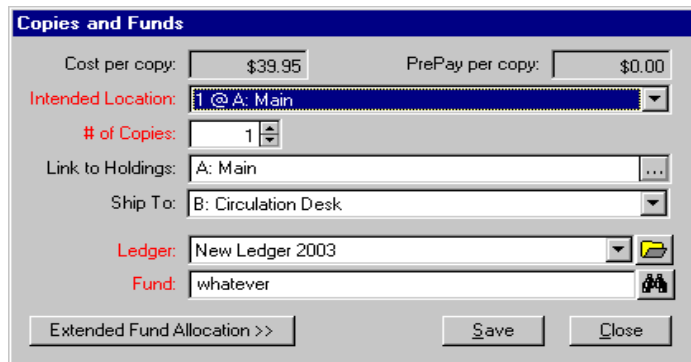

Figure 13-15. Copies and Funds dialog box - ellipsis displayed beside the Link to Holdings field
- The **ellipsis** button beside the **Link to Holdings** field on the **Copies and Funds** dialog box (Figure 13-15). The **Copies and Funds** dialog box can be displayed from the **Copies/Funds** tab of a line item. See Copies/Funds Tab on page 6-50.